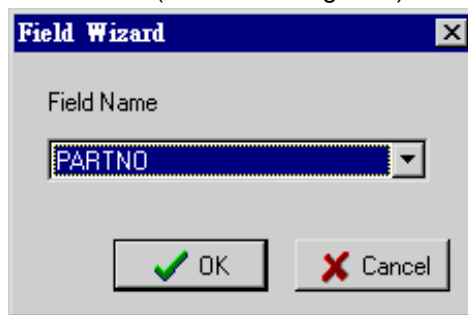

Fig.16.4
3. Click Field you want and then click OK. (refer to the Fig.16.4)